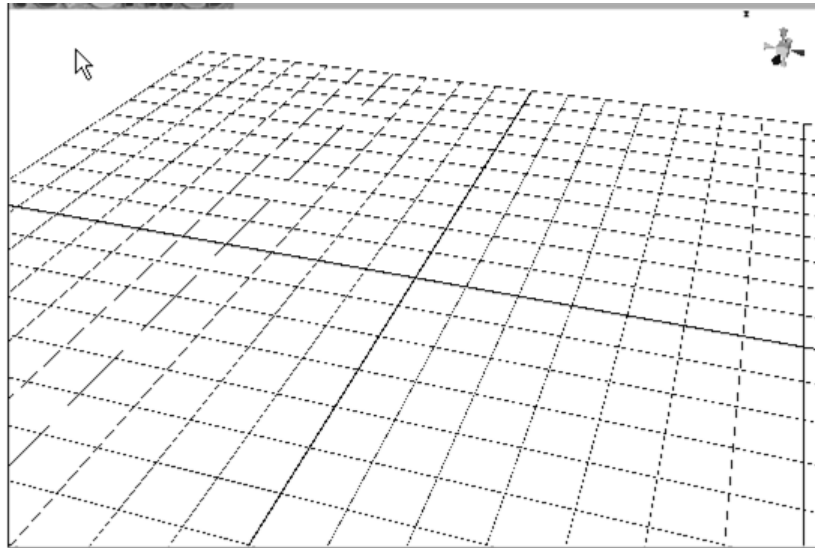

Figure L2.1 - A 3D Viewport in a Display
4. In the work area of the display, click on the upper left-hand corner and drag the mouse to the lower right-hand corner. You should now have a 3D viewport in the work area as shown in Figure L2.1.